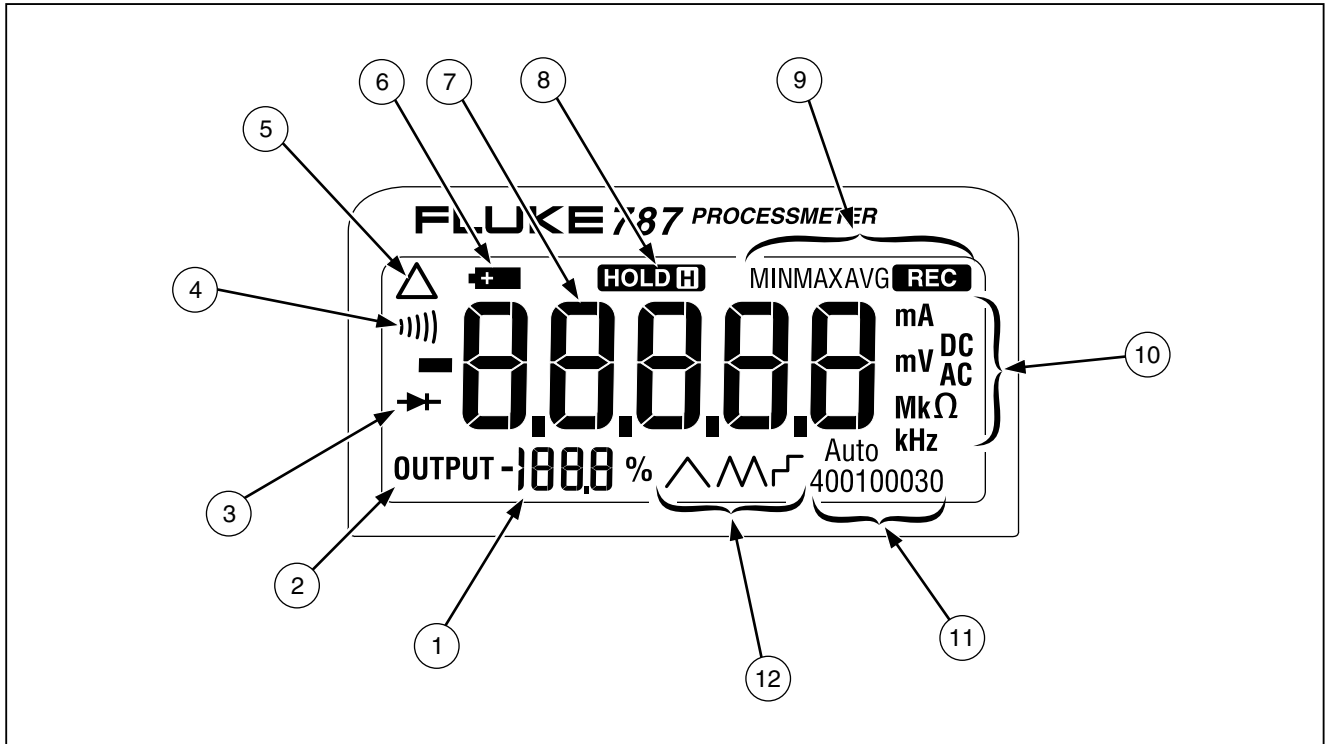

Figure 6. Elements of the Display
- Figure 6 and Table 6 explain what all the elements of the display indicate.